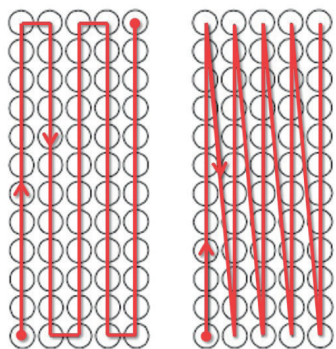

Figure 17. There is a choice between *Vertical* (left) and *SawVertical* (right) meandering schemes.
a. **Collect mode:** This setting determines how the fraction collector meanders when it reaches the end of a row. The choice is between *Vertical* or *SawVertical* (Figure 17).